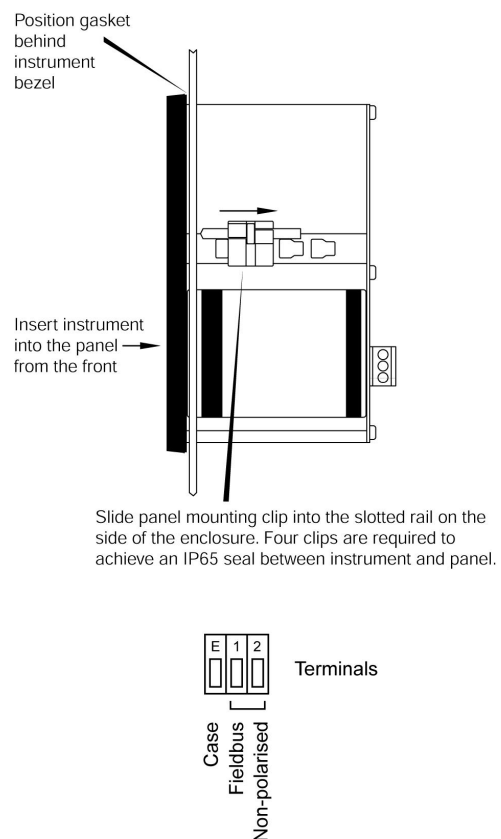

Fig 3 Installation and terminal connections
- Connect the panel wiring to the rear terminal block as shown in Fig 3. To simplify installation, the terminals are removable so that panel wiring can be completed before the instrument is installed. To simplify installation, the terminals are removable so that panel wiring can be completed before the instrument is installed. To prevent vibration damage **ensure that panel wiring is supported.**